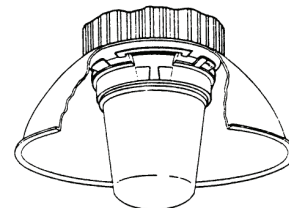

FIGURE 5
3. Continue to rotate reflector clockwise until reflector tabs engage final captivated bosses and the reflector "snaps into position." See Figure 5.